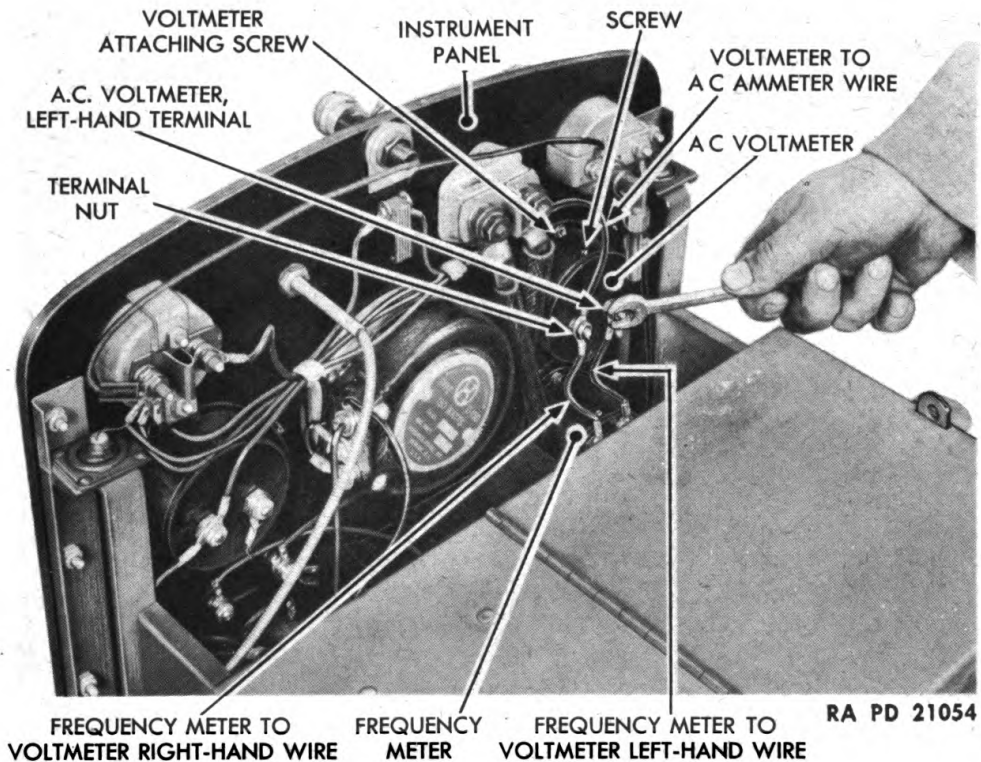

Figure 42 — A-C Voltmeter Removal
(1) Disconnect the wires attached to the terminals at the back of the instrument (fig. 42).
(2) Remove the three screws and nuts securing the instrument to the instrument panel and lift out instrument from the front of the panel.